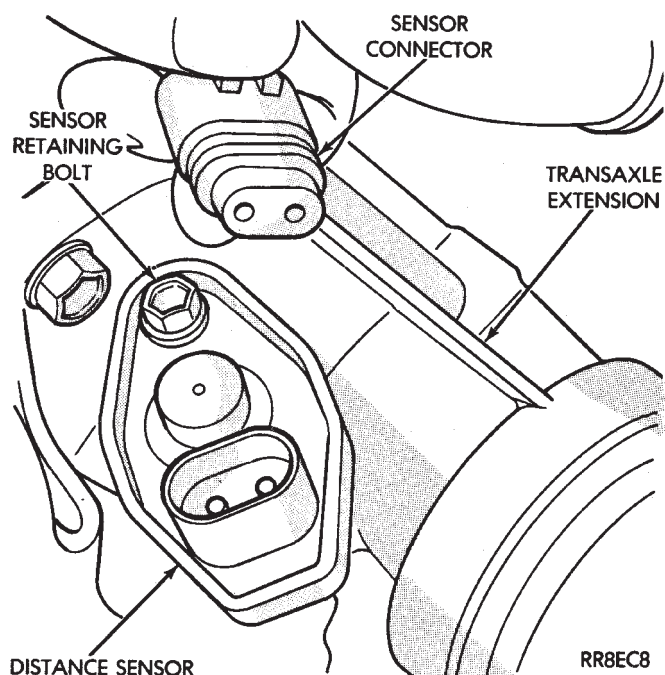

Fig. 25 Distance Sensor and Connector
(1) Remove harness connector from sensor and make sure the weather seal is on harness connector (Figs. 25 and 26).
(2) Remove sensor retaining bolt.
(3) Pull sensor and pinion gear assembly out of transaxle. If necessary, carefully pry loose with a flat blade screwdriver.
(4) Remove pinion gear from sensor.
(5) For installation reverse above procedures. Seat sensor assembly by hand to insure proper gear engagement. Tighten retaining bolt to 7 N·m (60 in. lbs.) torque.